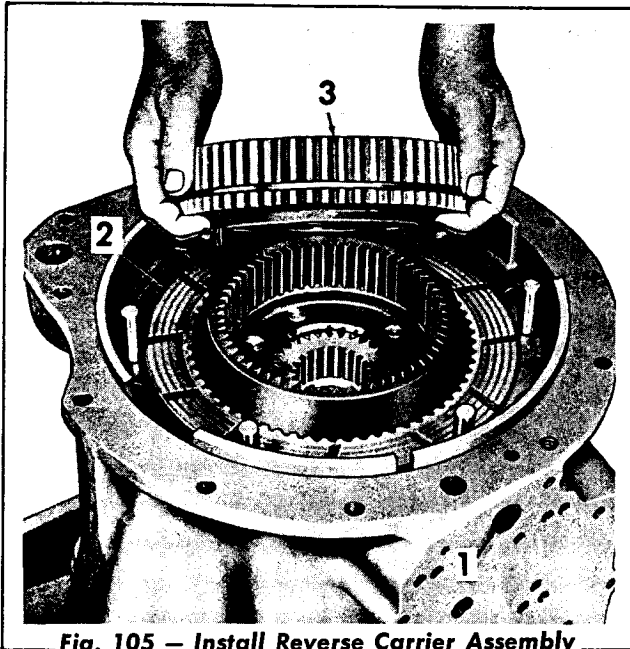

Fig. 105 — Install Reverse Carrier Assembly
21. Install the clutch anchor pin (Fig. 105). Install one internal splined reverse clutch plate. Install the reverse carrier assembly with the short splines down.
22. Beginning with an external splined plate, alternately install five external (Fig. 105), and four internal splined reverse clutch plates.